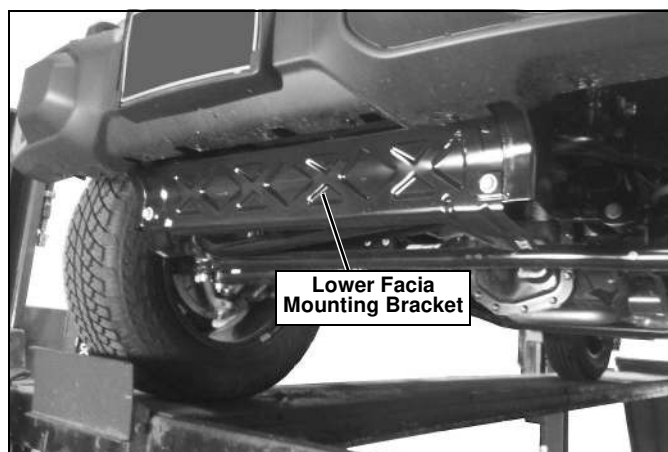

Figure 2
1. Remove the lower facia (See Figure 1), the lower facia mounting bracket (See Figure 2), bumper (See Figure 3), and outside bumper brackets (See Figure 4). Retain hardware for re-installation.